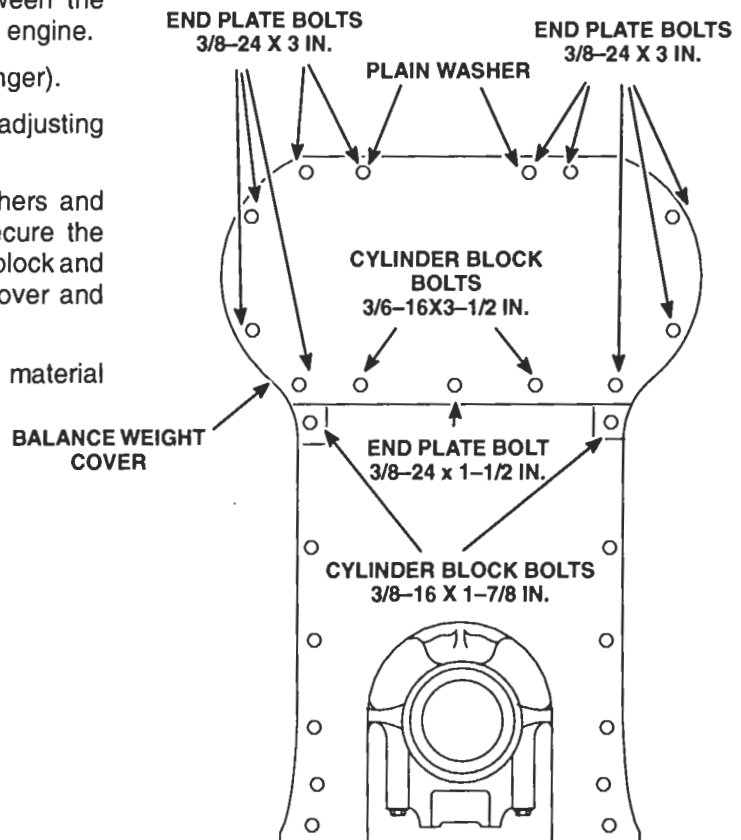

Figure 1. Balance Weight Cover Mounting
5. Remove the fifteen bolts, lock washers and plain washers (Figure 1.) which secure the balance weight cover to the cylinder block and the front end plate. Remove the cover and gasket.